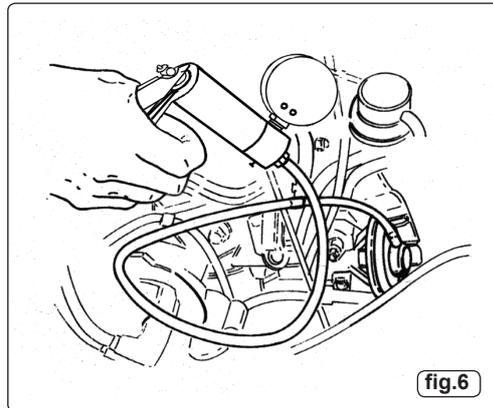

fig.6
6.4.1. Start engine and run at idle until normal operating temperature is reached. Remove the vacuum line from the EGR valve and attach the VS4021 vacuum tester kit (fig.6). Operate the hand pump to apply approximately 15inHg of vacuum. If the EGR Valve is working correctly the engine idle will become rough. If the idle remains unchanged the valve is possibly seized in the closed position. If the vacuum is not held, the diaphragm in the valve has failed.